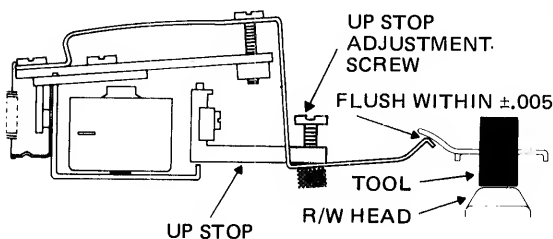

FIGURE 5 HEAD LOAD ACTUATOR UPSTOP ADJUSTMENT
- h. Adjust up stop on actuator so that bail just touches Head Load Arm within $\pm .005''$. Reference Figure 5.